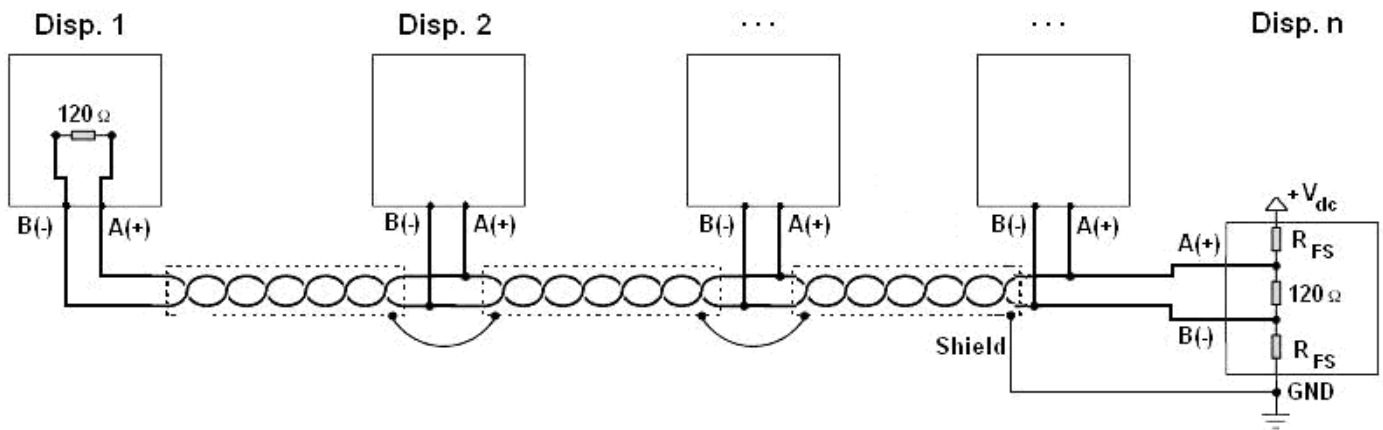

Figure 1: electrical diagram of RS485 connections.
- The shielding can be connected into a single point of the entire network (as shown in Figure 1) or both its ends, however it's important that **all the masses have the same potential**, in order to avoid the forming of current rings.
- On the RS485 network normally one connects 2 **termination resistances** equal to the characteristic impedance of the cable (typically 120 Ω, see Figure 1), **ONLY** on the 2 devices **which are at the 2 ends of the ring connection** (for example indicator and last device). The terminal resistance is not supplied with the ports of the indicator.
To create a resistive divider which maintains this difference of potential also when all the transmitters are disabled, inert in the RS485 port of the indicator where there are the termination resistances, the **polarisation or fail-safe resistences** ( $R_{FS}$  in Figure 1). The value of these resistances is between 390 Ω and 2,2 kΩ.